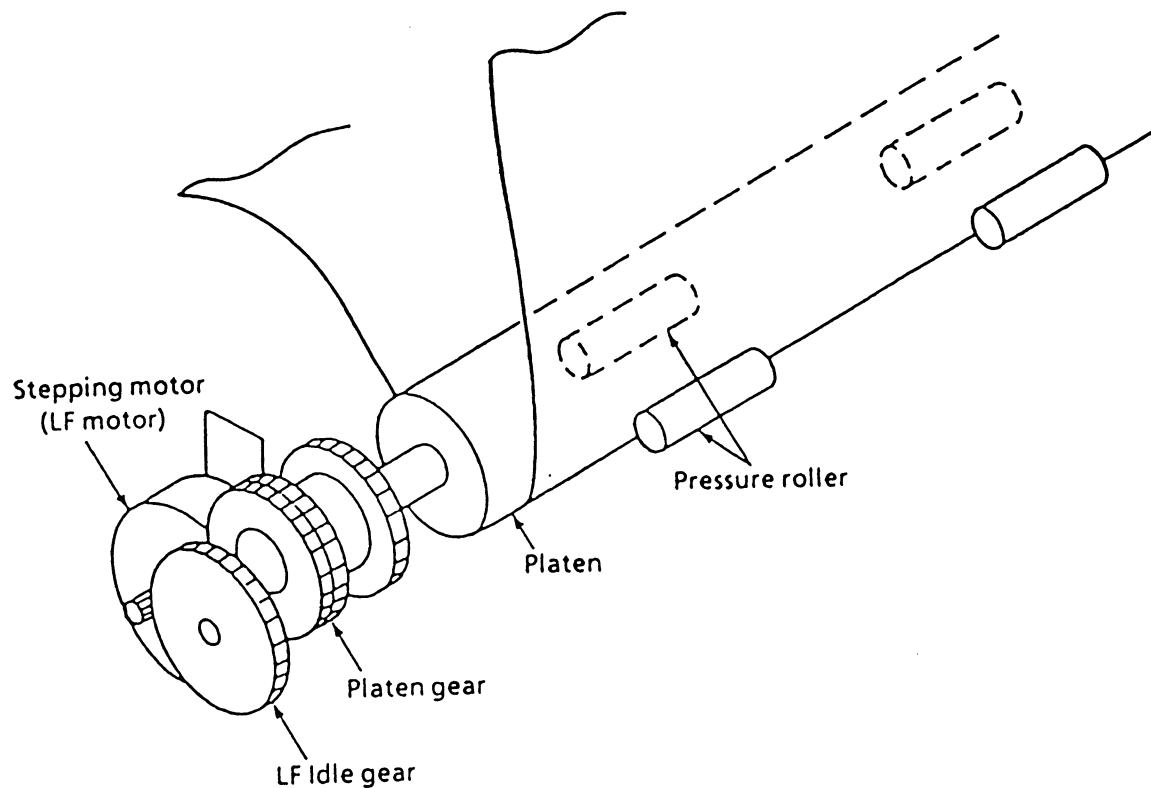

Figure 3-9
(2) **Cut-sheet feed operation (See Figure 3-9)**